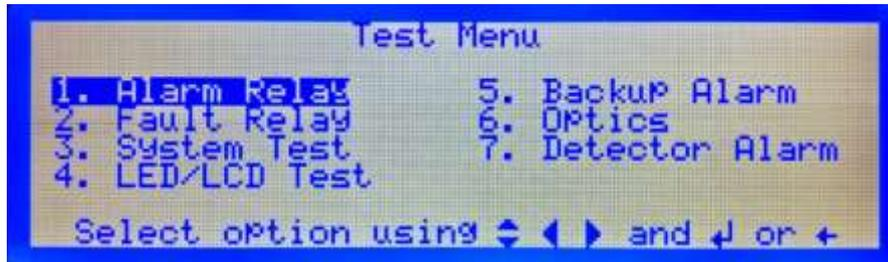

Figure 62 Test Menu – User Level
4. From the Test Menu, Figure 62, select 2. Fault Relay
1. From the Test Menu, Figure 62, select 5. Backup Alarm